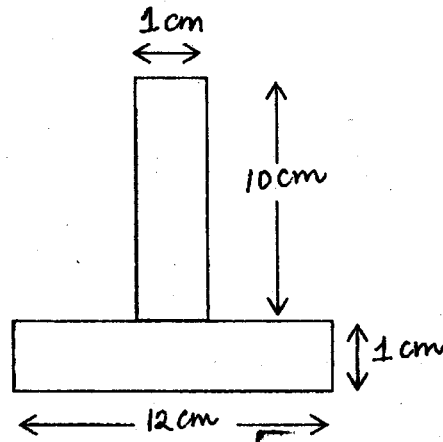

Figure 1
- (b) Determine the shape factor for the beam section shown in Figure 1. Find also the fully plastic moment of the beam section. Take  $\sigma_y = 250 \text{ N/mm}^2$ .